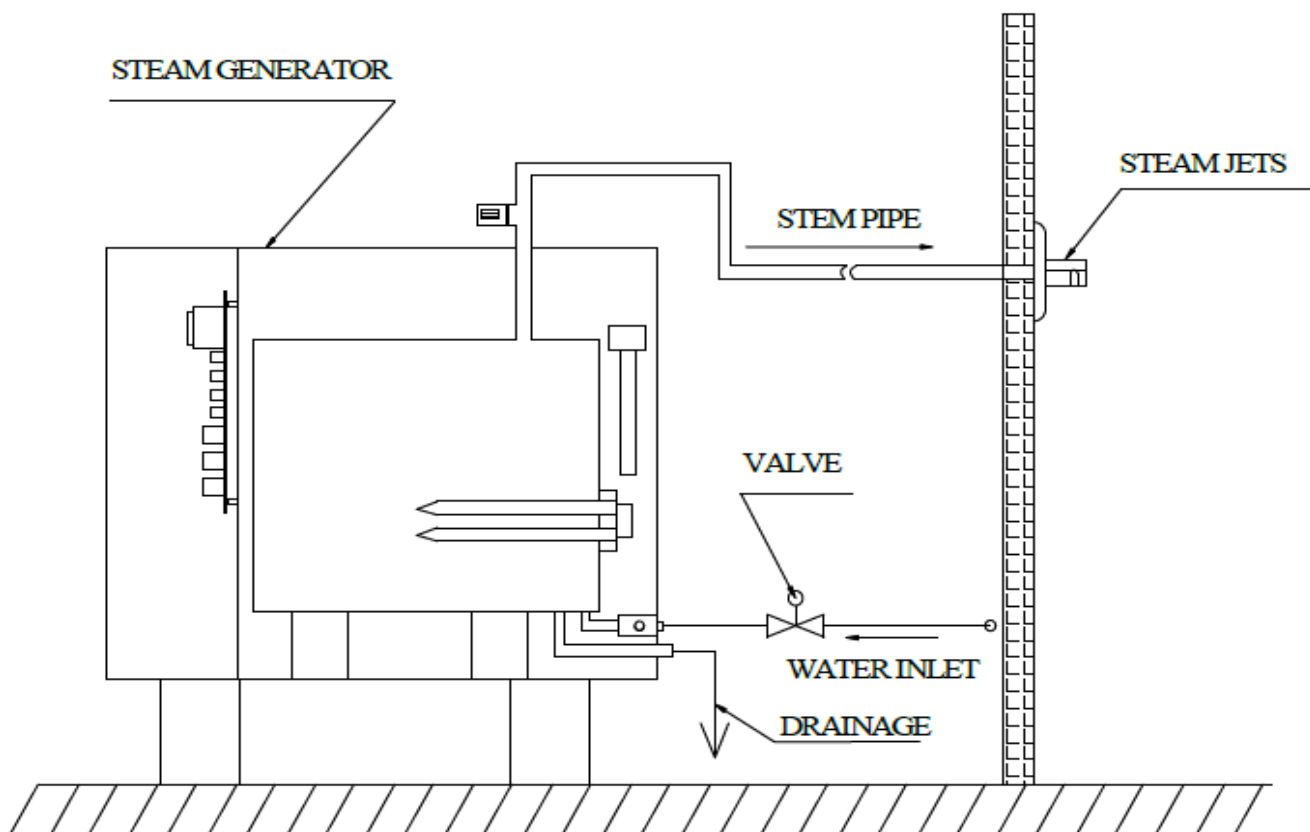

Figure 2: Pipe Installation
2. Install the pipe (See Figure 2):